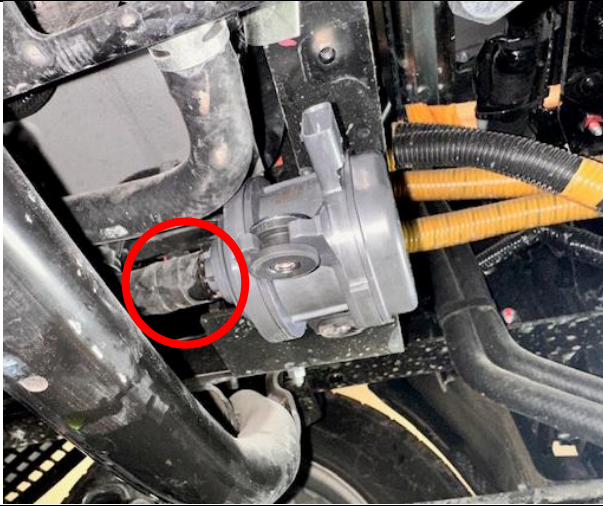

Figure 34
69. Separate the hoses from the water pump. (See Figures 34 and 35.) Allow any coolant to drain into the pan.